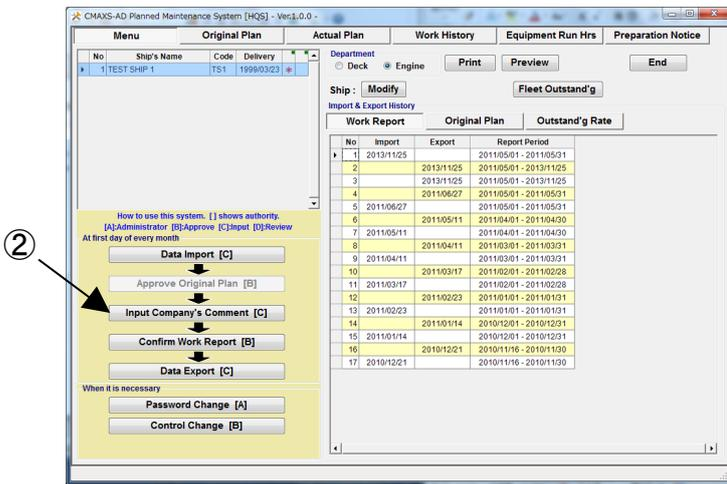
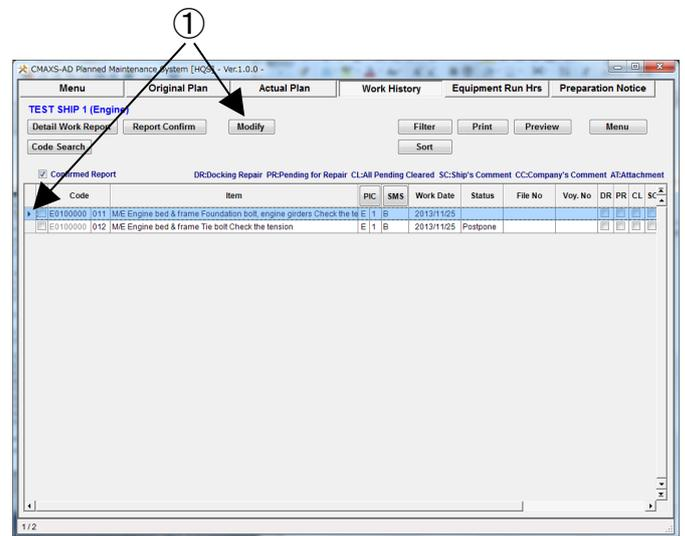

Fig.8-1 Menu Screen
Fig.8-2 Work History Screen
- (1) On the "Menu Screen"(Fig.8-1), select [Input Company's Comment]. "Work History Screen"(Fig.8-2) is displayed. At that time, [Modify] button is blinked several times for your guidance of next operation.
- (2) Select maintenance work item and [Modify] button.
- (3) Enter Company's Comments. Then, select [Save].
- (4) Select [Close].
- (5) If you select [Menu] button, screen is returned to "PMS Main Screen".